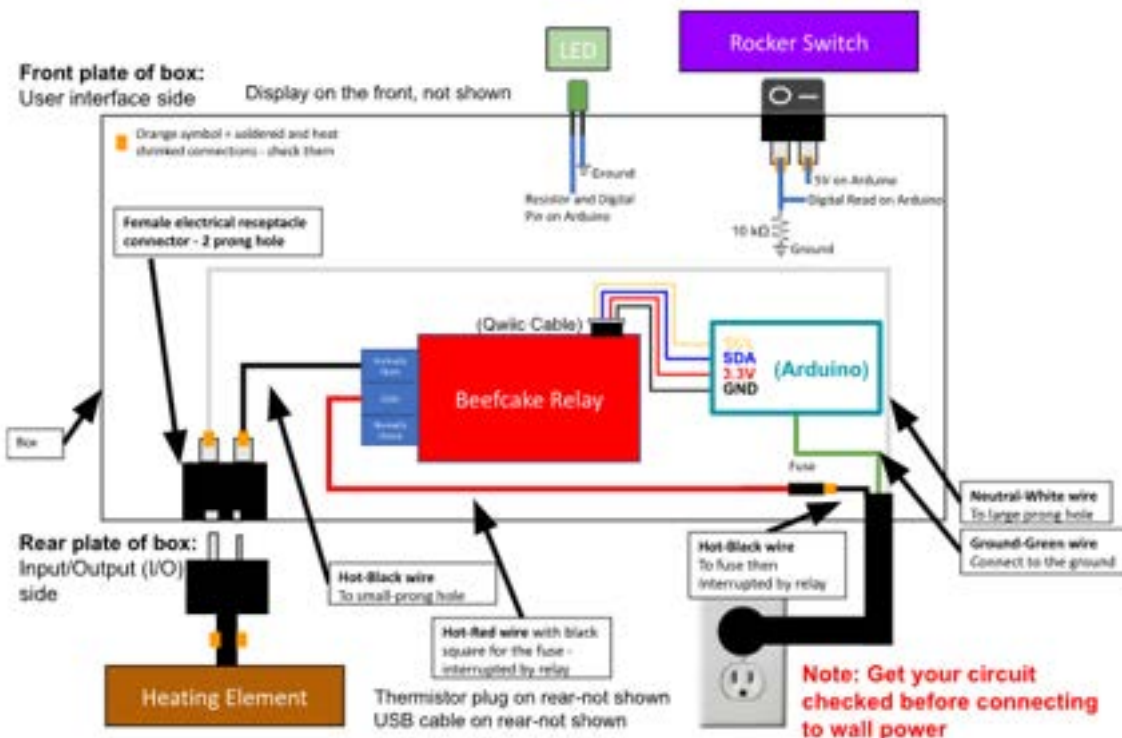

Figure 15. Connections between the Beefcake Relay, wall power, Rocker switch and Arduino.**Note: Have your circuit checked BEFORE connecting to wall power.**
2. Connect the Hot (**black/brown**) wire from the wall power receptacle cable to the fuse wire as shown in Figure 15. Make sure this wire is properly soldered and heat shrunk with the fuse wire. Connect the fuse wire to the Com terminal of the Beefcake Relay (Figure 15).
7. Make the connection for the Heating Element and the male connector as shown in Figure 15. Make sure that the terminal is soldered and properly heat shrunk.